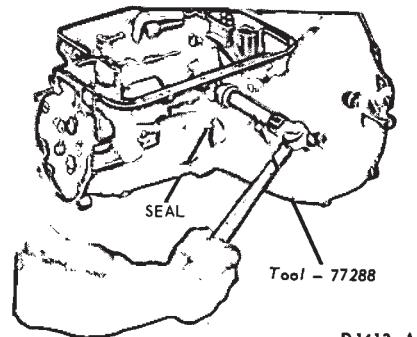

FIG. 32—Installing Manual Lever Seal
7. Dip the new seal in transmission fluid and install it in the case as shown in Fig. 32.